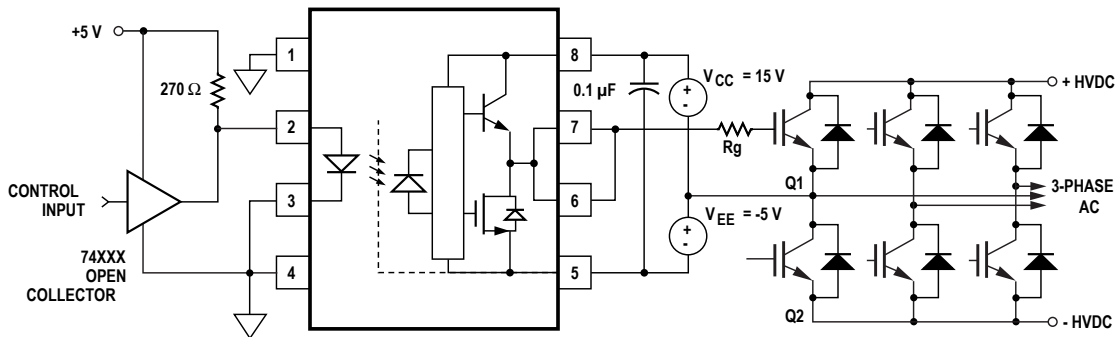

Figure 30. ACPL-3130 Typical Application Circuit with Negative IGBT Gate Drive.
Step 1: Calculate R_g minimum from the I_{OL} peak specification. The IGBT and R_g in Figure 30 can be analyzed as a simple RC circuit with a voltage supplied by the ACPL-3130.
For the circuit in Figure 30 with I_F (worst case) = 16 mA, R_g